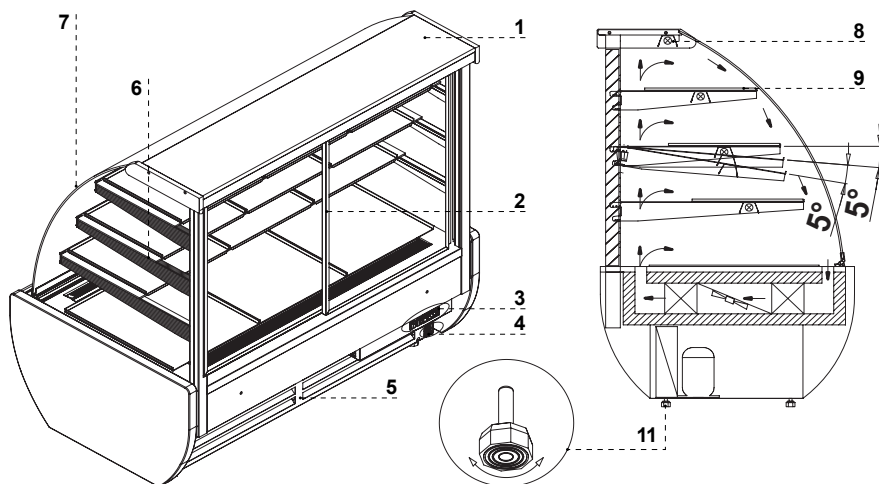

Fig.1 Construction of „Jamajka” device
- The device should on an even and on a sufficiently hard base, and then level it with the help of feet Fig.1/11 (p.13)